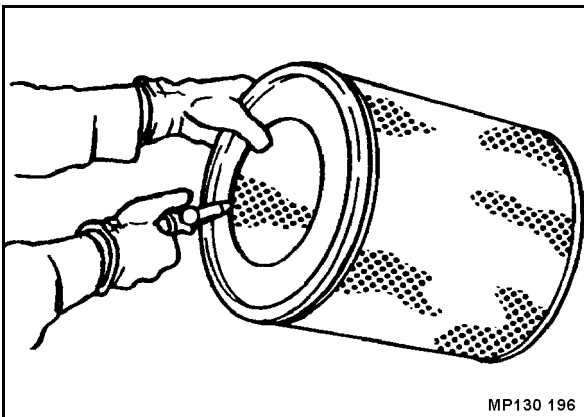

Fig. 186
- Blow the air filter (Fig. 186) out with compressed air (max. 5 bar(70 psi)) from inside to outside by moving the tube up and down inside the element, until it is free of dust.